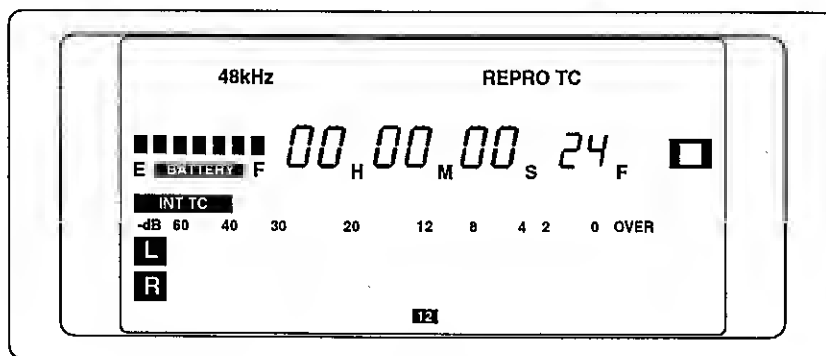

Figure 11
- 1) When the PD-4 is powered up, full stop (STOP mode) is engaged. The STOP key LED is illuminated as is the STOP indicator on the LCD (See Figure 11 on page 24). The tape is loaded, but the pinch roller is not pressed to the capstan and drum cylinder is not rotating.
- 2) Pressing the STOP key will put the PD-4 into pause (PAUSE mode). The PAUSE key LED (17) will illuminate as will the PAUSE indicator on the LCD. In pause mode, the drum cylinder will rotate at normal play speed and the tape will be in contact with the drum. This reduces the play and record start-up times.